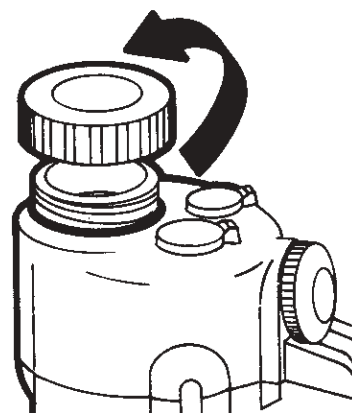

Figure 1
1. To remove the battery compartment cover, turn counterclockwise. (Figure 1)